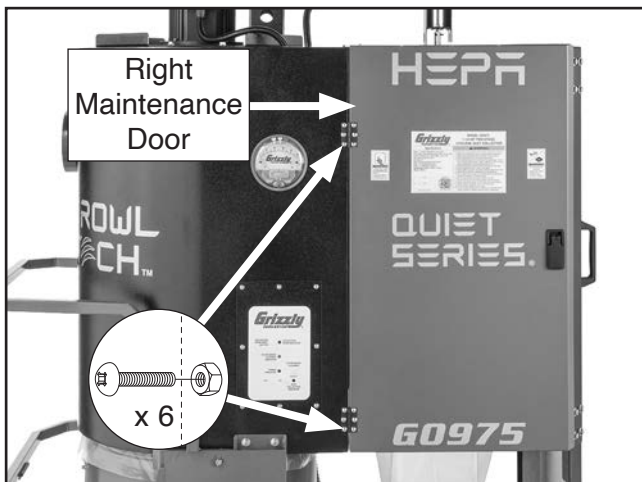

Figure 36. Right maintenance door attached to machine body.
24. Attach right maintenance door to right side of machine using (6) $\frac{3}{16}$ "-24 x $\frac{1}{2}$ " Phillips head screws and (6) $\frac{3}{16}$ "-24 hex nuts, as shown in **Figure 36**.